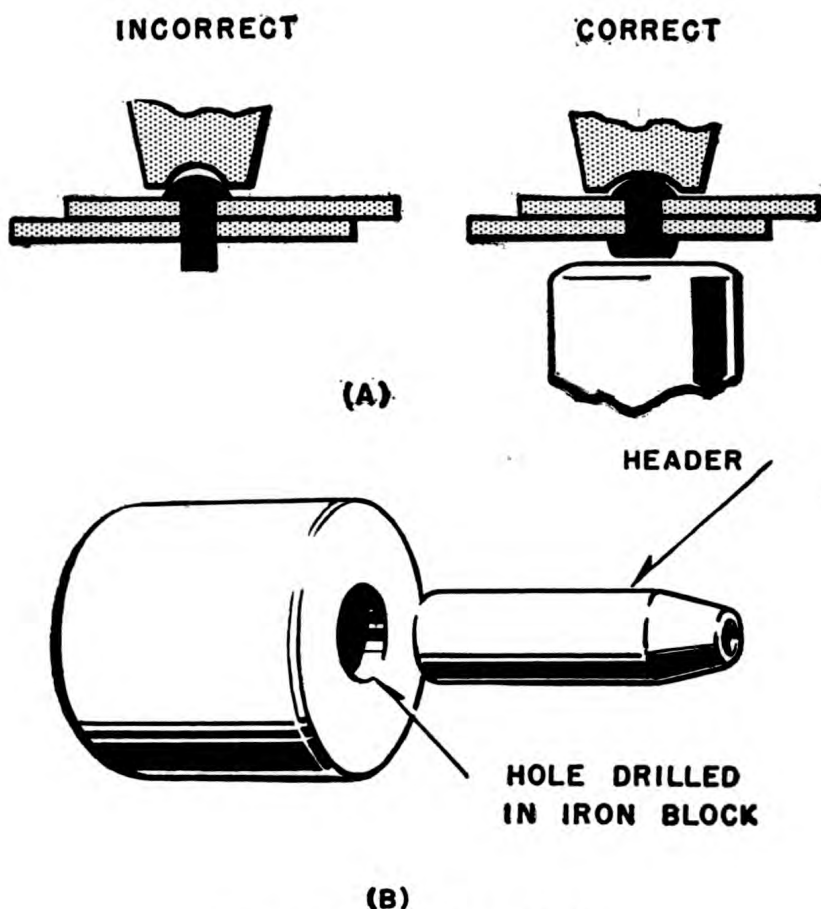

Figure 72.—Bucking blocks.
The bucking block should have a cup-like depression in the end to take care of the rivet head. The depression should be slightly shallower and also wider than the head of the rivet in order not to distort it. Figure 72(A) shows correct and incorrect shapes for this cup-like depression. A rivet header like that used on pneumatic riveters makes a very good bucking bar for hand
riveting if you support it in a steel block. Any piece of steel or cast iron is OK. Simply drill a hole in the metal and stick the shank of the header into it, as in figure 72(B).